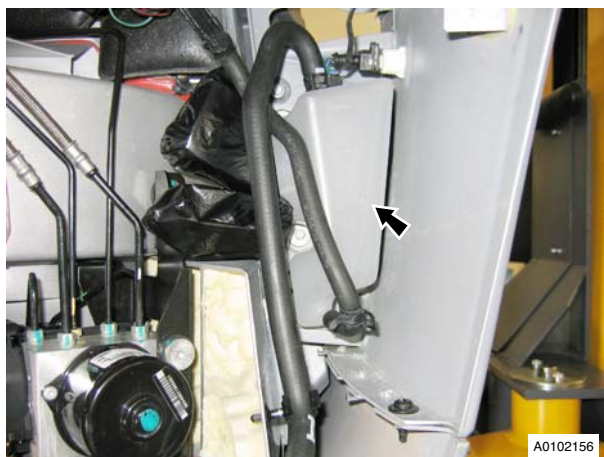

Figure 3
7. Move coolant catch tank aside (bolts x2 and sound deadening) (see Figure 3).